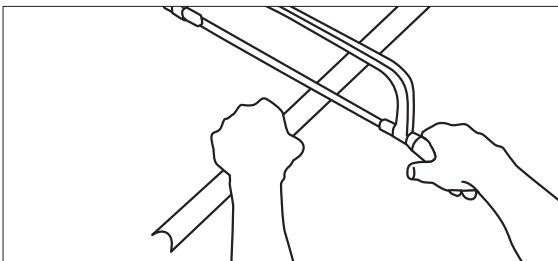

Fig. 31-5 Cutting off
1. Cut off the pipe support channel with a metal saw (see Fig. 31-5). Maintain a safe distance between the holding hand and the cutting tool. Saw pipe support channels from the rounded rear side so that they are not bent open at their folded ends.